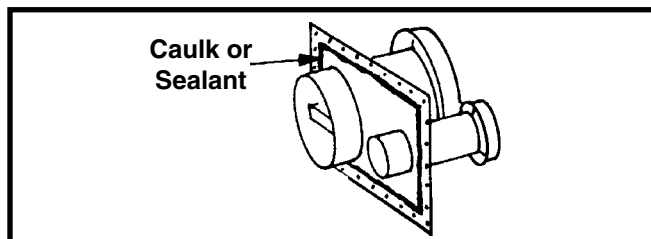

Figure 9. Sealant Application
9. Apply appropriate caulking or roof sealing material to ventilator cap assembly. Apply compound to underside of ventilator cap flashing to form a continuous strip around the underside of the perimeter of the flashing as seen in Figure 9 (page 4).